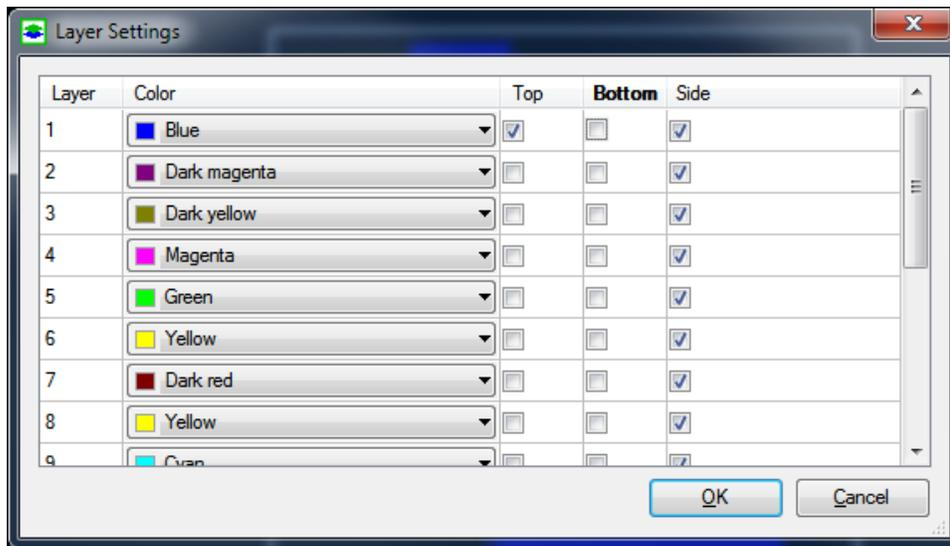

Figure 3.3. The Layer Settings dialog box
- *Color:* click on the  button to open the Layer Settings dialog box (Figure 3.3), where you can define the color and the visibility of the top, side, and bottom of